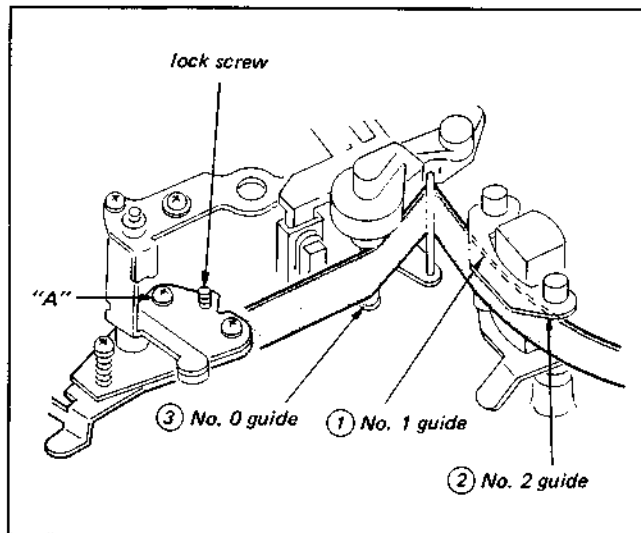

Fig. 3-12. Replacement and adjustment (2) of tension regulator arm plate assembly
3. Play back the 1 MHz segment of the alignment tape (KR5-1H). Loosen the lock screw and adjust screw "A" in Fig. 3-12 so that the RF waveform becomes that (see the waveform in the tape path adjustment, Section 3-19-1.) when the TRACKING knob is turned to the right and left from its center detent position and so that the tape is not apart from the flanges of guides (1), (2) and (3) shown in Fig. 3-12 and there is not a large tape curl at the guides.